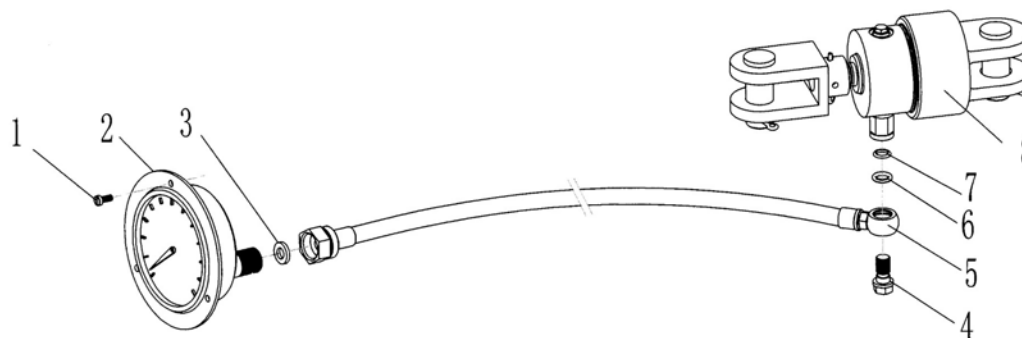

Fig 12
7.9. Torque testing system of master tong (Fig12, Table11)